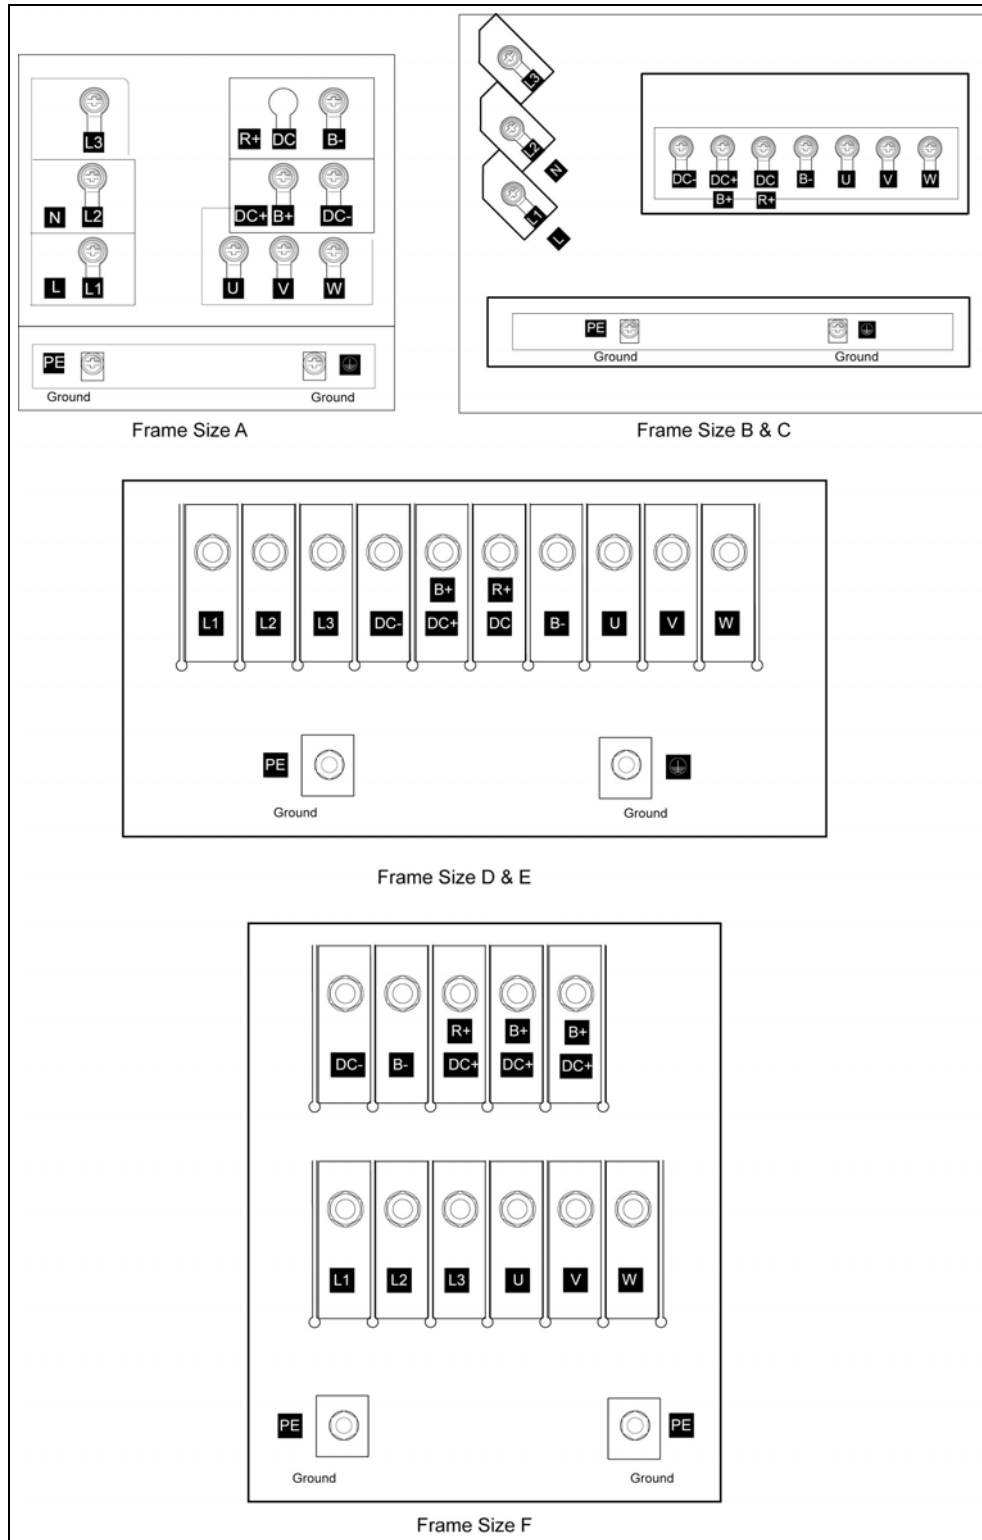

Fig. 2-6 Connection terminals for Frame Sizes A - F
- Connection terminals for Frame Sizes A - F (Fig. 2-6)